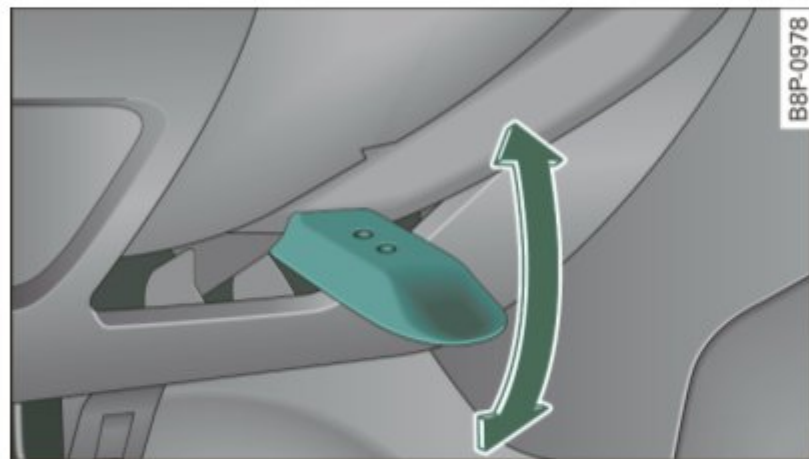

Fig. 106 Lever under the steering column
- Push the lever ⇒ fig. 106 down as far as it will go ⇒ ⚠.